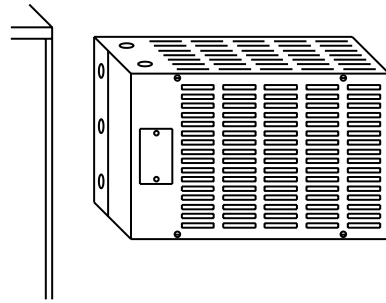
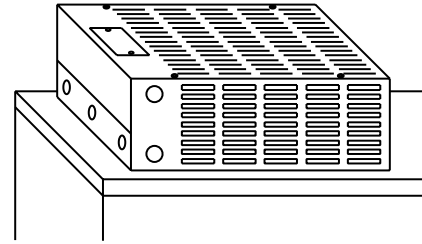

Figure 3: Typical Wall Mounted Unit
Figure 4: Typical Roof Mounted Unit
2. Remove the screws that attach the ventilation cover to the unit. Most units have four (4) screws, larger units have six (6) screws.
3. Units up to 28" wide may be wall mounted, as shown in **Figure 3**, or roof mounted, as shown in **Figure 4**.
4. Fasten enclosure with (4) 3/8" bolts.